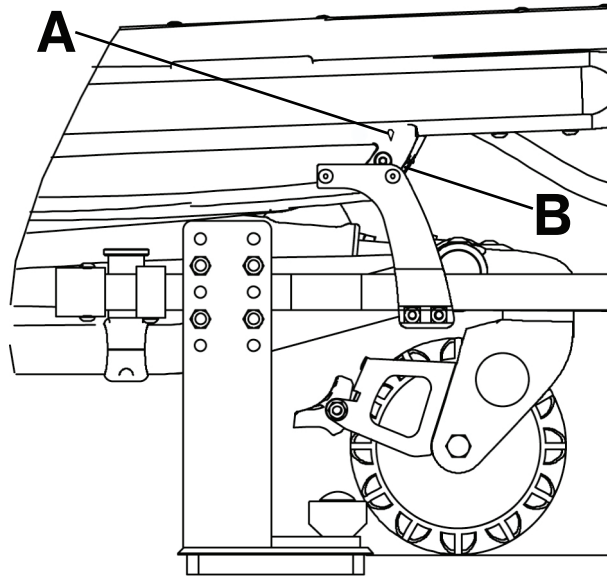

Figure 6 – Adjust shut-off bracket
4. Adjust the shut-off bracket along the rail clamp until the diamond (A) on the sensor housing is lined up with the pop rivet head (B) (Figure 6).
**Note** - Align the diamond (A) on the sensor housing cover with the pop rivet head (B) on the in-ambulance shut-off (Figure 6).